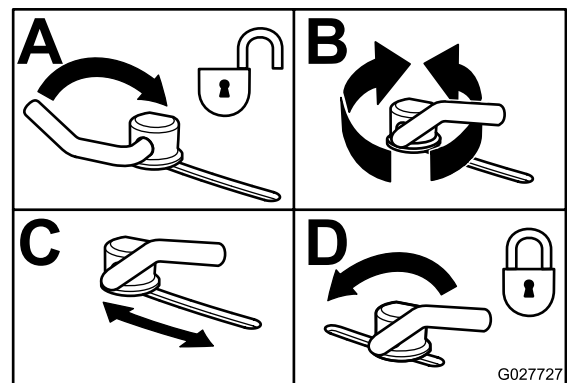

Figure 35
3. To adjust the cam locks, swing the lever up to loosen the cam lock (Figure 35).
5. Swing the lever back over to tighten the baffle and cam locks (Figure 35).